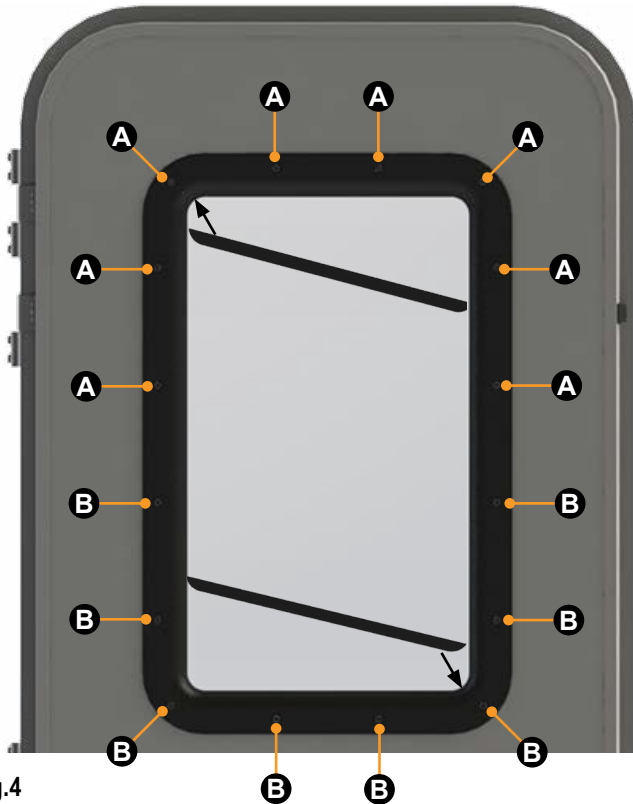

Fig.4
12. Holding the top shade sill at an approximate 45 degree angle, insert one end into the corner between the inner frame and glass (Fig.4).
18. Holding the bottom shade sill at an approximate 45 degree angle, insert one end into the corner between the inner frame and glass (Fig.4).